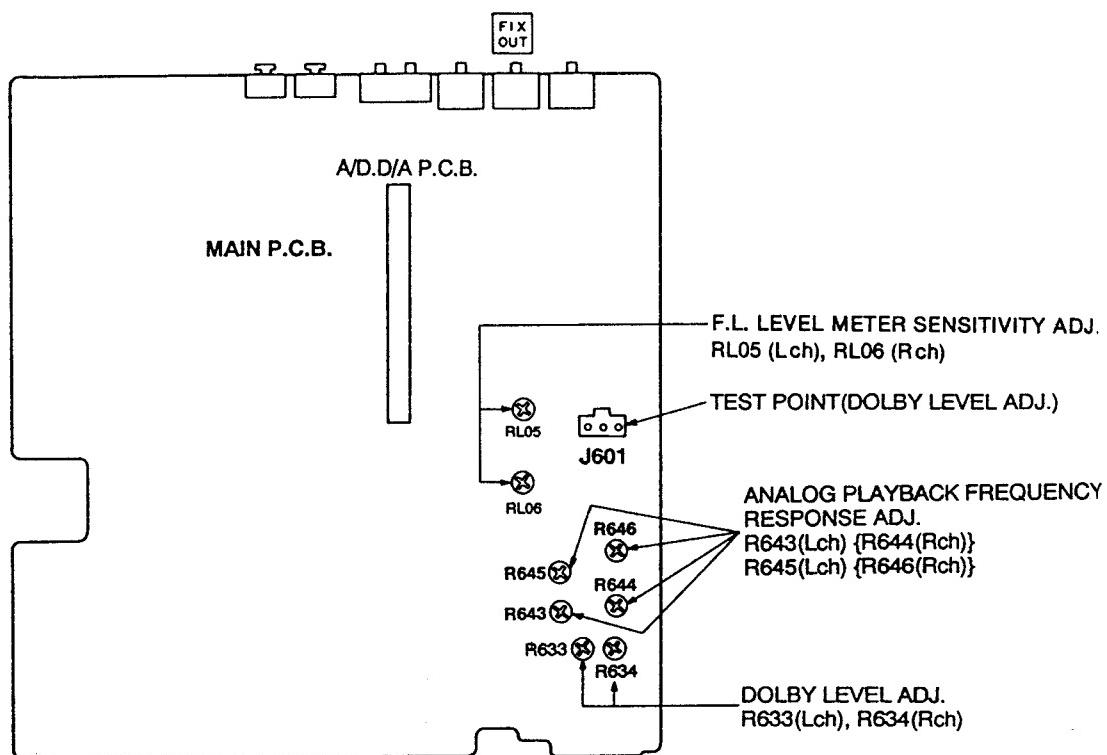

Fig. 25
- (1) While playing back the Dolby level tape (RFKZ0038), adjust the voltage at test point J601 to 338mV using R633 (Lch) and R634 (Rch) (See Fig. 25).
(See Fig. 25)
- (1) Load a **DCC Blank tape (RFKZ0033)** in the unit under test and place it in **REC PAUSE** mode.
- (2) Load the **CD Test disc (SZZP1054C)** in the CD player and play the second band (1kHz, 0dB, L+R signal).
- (3) Adjust potentiometers **RL05** (Lch) and **RL06** (Rch) so the DCC unit's FL level meters indicate 0 to -2dB (See Fig. 25).